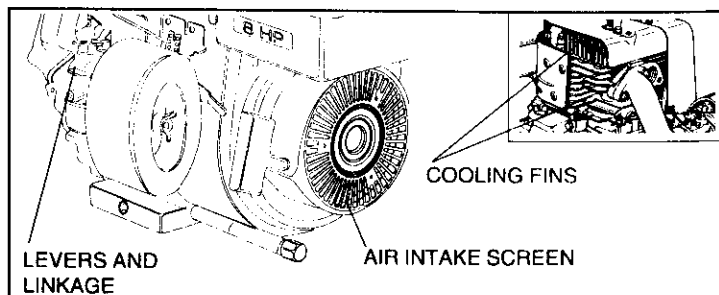

Figure 6
**IMPORTANT:** Frequently remove any grass clippings, dirt and debris from cooling fins, air intake screen and levers and linkage (see Figure 6). This will help ensure adequate cooling and correct engine speed.